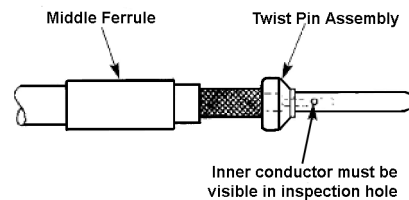

Figure 2
STEP 2. Insert conductor into the twist pin contact assembly making sure it is visible in the inspection hole – per Figure 2. Crimp contact with M22520/2-01 crimp tool and MSW –CX544 Locator - (#2 setting).